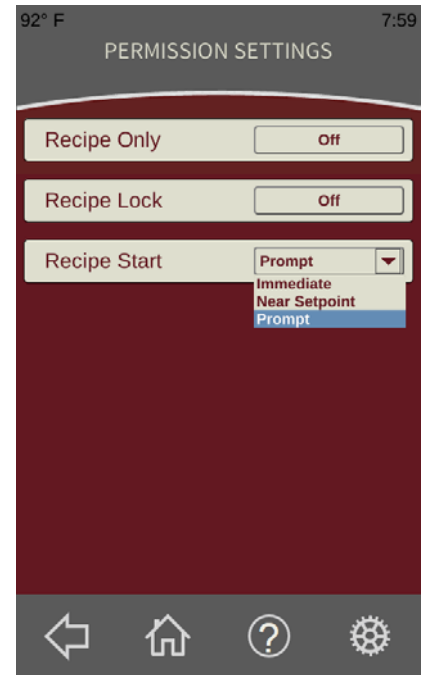

Fig. 56
- Adjusting Recipe Only (Fig. 56) to On will change the Home screen to show only the Recipes and Wash icons. This prevents access to the Standard or Quick Start portions of the controller.
- Adjusting Recipe Lock (Fig. 56) to On will restrict a user from making any changes to the stored recipes.
- Adjusting Recipe Start (Fig. 56) to Immediate will start the recipe timer when Play is touched regardless of oven temperature.
- Adjusting Recipe Start (Fig. 56) to Near Setpoint will start the recipe timer when Play is touched if the oven temperature is within 5 degrees of the desired recipe temperature. If the oven is not within 5 degrees of the desired recipe temperature, the oven will automatically begin a cooldown or preheat process.
- Adjusting Recipe Start (Fig. 56) to Prompt will show the preheat alert screen when Play is touched and the oven temperature differs from the selected recipe's desired temperature.